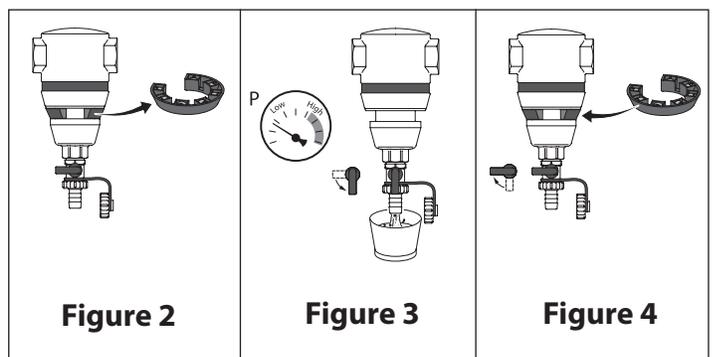
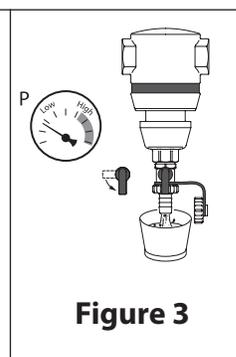

Figure 2
Figure 3
7. To blow out the impurities collected in the magnetic dirt separator remove the magnetic ring (Figure 2), place a bucket under the valve (Figure 3), open the blow down valve for 3-5 seconds and then close it. Replace the magnetic ring (Figure 4).